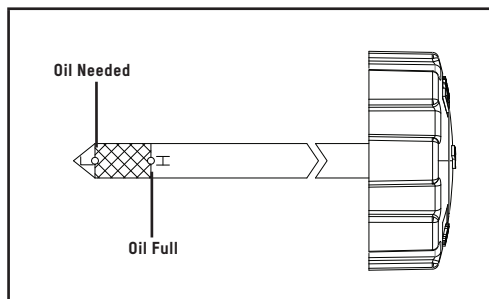

Figure 21B
3. Insert the oil cap/dipstick into the oil filler neck but do not screw it in, then remove it to check the oil level (Fig. 21B).
4. If the oil level is near or below the lower limit mark on the dipstick, remove the oil cap/dipstick, and fill with the recommended oil to the upper limit mark. Do not overfill (Fig. 21B).